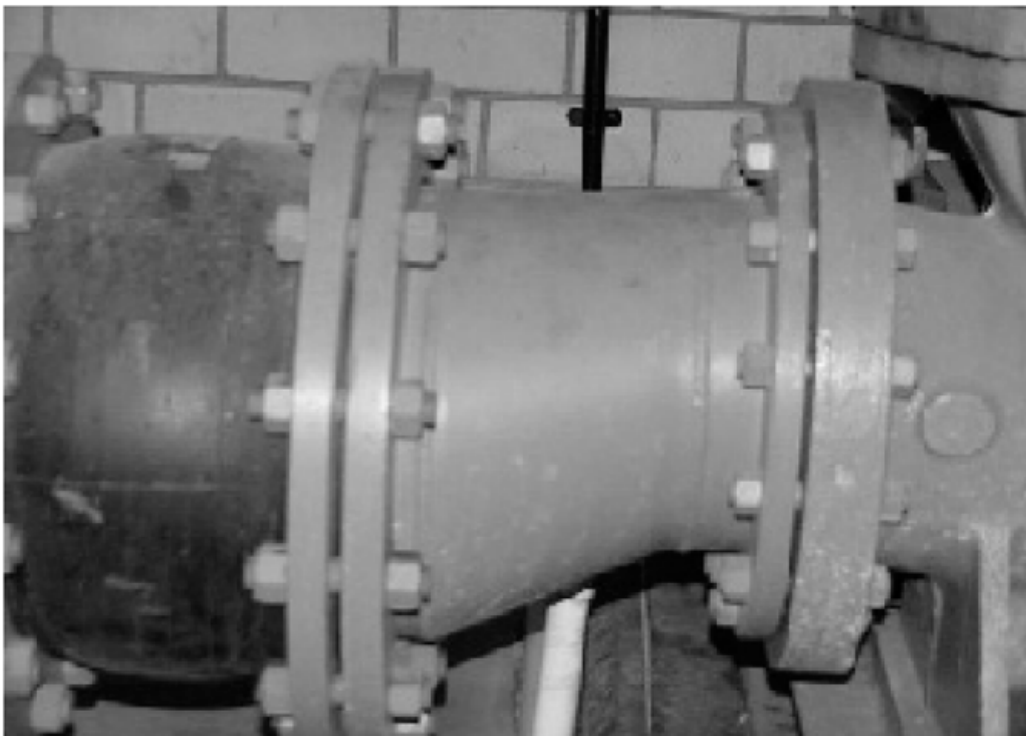

Figure 6.6 – Inlet Piping
6.12.1 Inlet Piping (Figure 6.6)